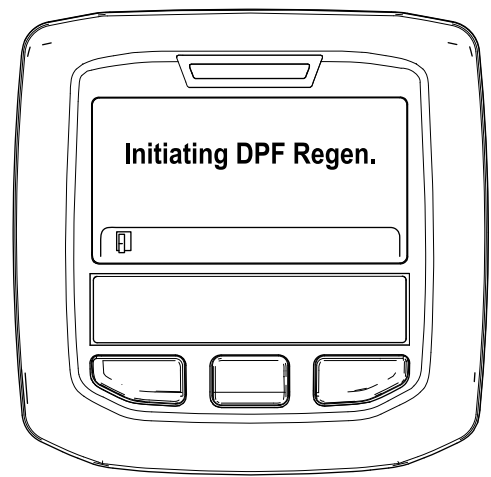

Figure 50
- A. The "Initiating DPF Regen." message displays (Figure 50).